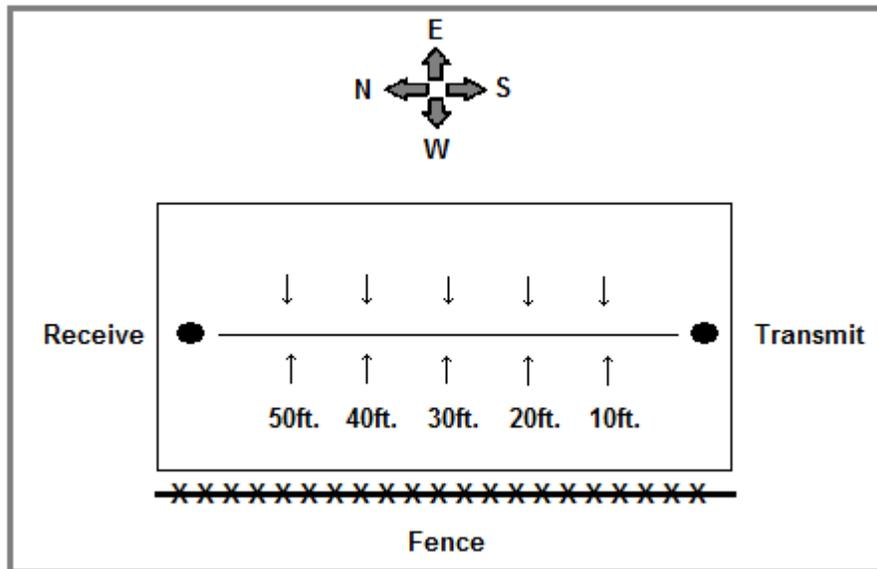

Figure 1: Test Locations
- a. **Test locations for the microwave:** Because of time constraints, test locations have been determined for you (Table 1). Figure 1 shows test locations.